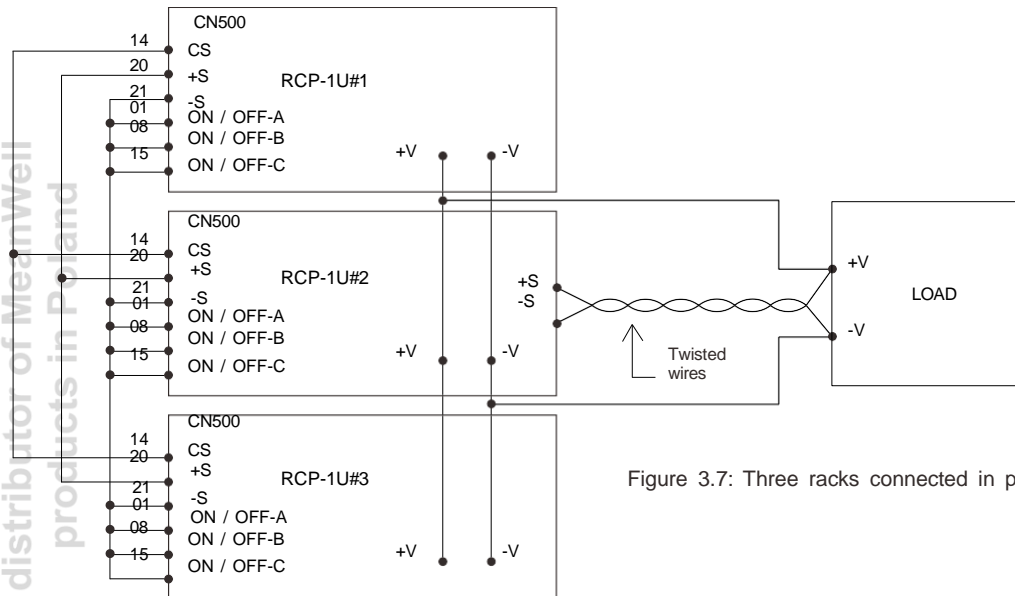

Figure 3.7: Three racks connected in parallel
- ⊗Please paralleling the racks first and then connect to the load (refer to Figure 3.7). Do not connect each rack to the load separately!
- ⊗The control signals CS, +S, -S should also be connected in parallel. (refer to Figure 3.7)
- ⊗Twisted wires should be used for the wiring of +S and -S. To avoid the interference, the twisted wires should not touch the load wires. (refer to Figure 3.7)